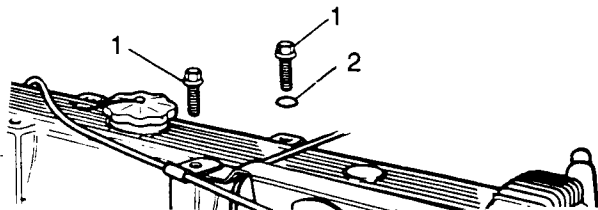

Fig B4.67
- (12) Refer to Fig B4.67. Remove the eight flanged bolts (1) and O-rings (2) securing the cam cover and remove the cover and gasket.
- (13) Remove the distributor cap and the leads from the spark plugs. It may be necessary to rotate the distributor slightly so that the cap does not foul the head when being removed.